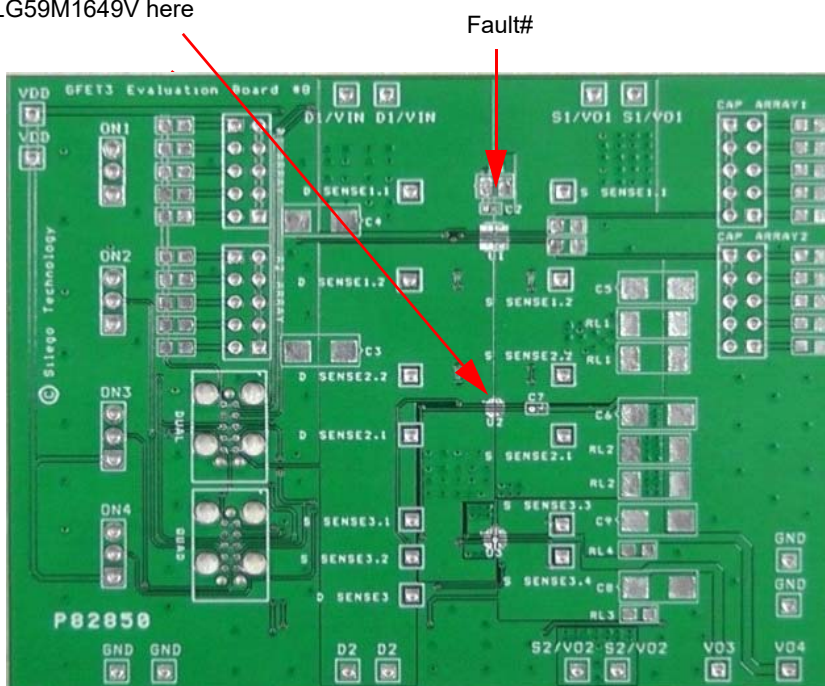

Figure 1. SLG59M1649V Evaluation Board.
1. Since the VIN and VOUT pins dissipate most of the heat generated during high-load current operation, it is highly recommended to make power traces as short, direct, and wide as possible. A good practice is to make power traces with absolute minimum widths of 15 mils (0.381 mm) per Ampere. A representative layout, shown in Figure 1, illustrates proper techniques for heat to transfer as efficiently as possible out of the device;
A GFET3 Evaluation Board for SLG59M1649V is designed according to the statements above and is illustrated on Figure 1. Please note that evaluation board has D_Sense and S_Sense pads. They cannot carry high currents and dedicated only for RDS_{ON} evaluation.